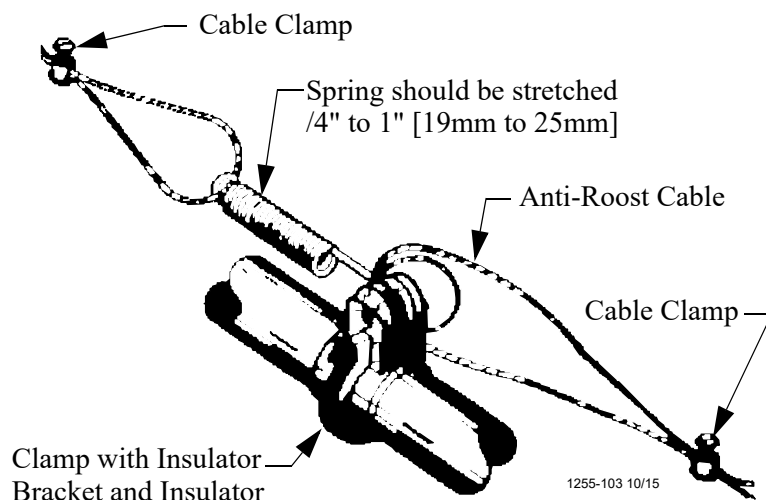

Figure 53. Anti-Roost Cable at the Hopper
4. Attach a spring in the center groove at the second anti-roost bracket and cut the cable at this point, (See **Figure 53**.)
5. Thread the ends of the cable through the end of the spring. Pull the cable tight so there is 3/4" to 1" (20 to 25 mm) of stretch in the spring. Clamp the cable to from a loop and cut off any excess, (See **Figure 53**.)
6. Attach the cable to the insulator. For best results, make a double loop around the anti-roost insulator in the center groove of the insulator and fasten with a 1/16" cable clamp as shown in **Figure 53**.